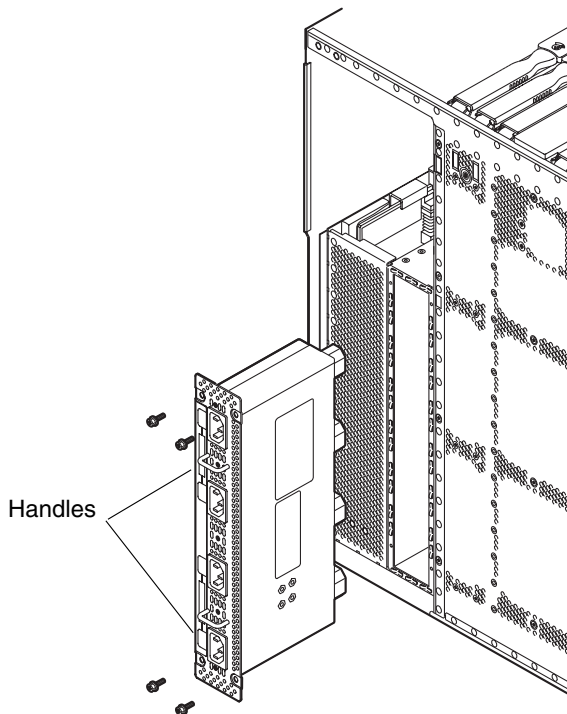

FIGURE 7-4 Removing the Power Inlet Box (Sun Fire V1280 Shown)
The power inlet box is located at the left rear of the system just to the right of the metal perforations (FIGURE 7-4).
4. Remove the four Phillips no. 2 screws retaining the inlet box (FIGURE 7-4).
1. Insert the power inlet box into the rear of the system and secure the inlet box using the four Phillips no. 2 screws (FIGURE 7-4).